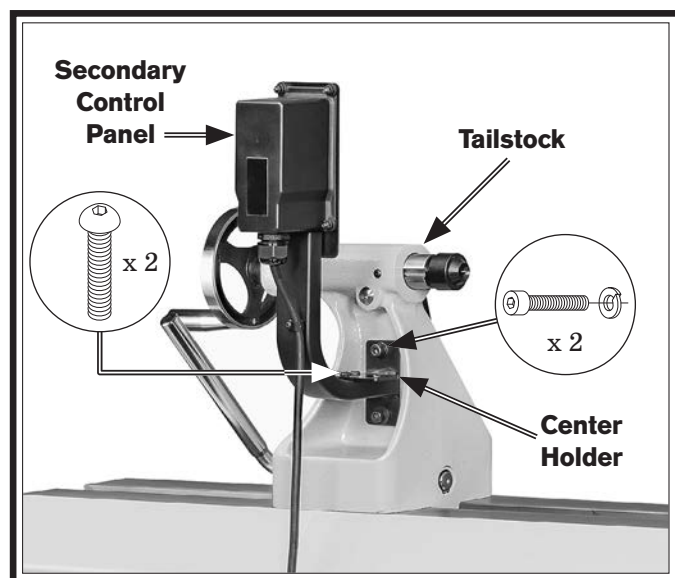

Figure 12. Secondary control panel installed.
1. Attach secondary control panel to tailstock using (2) M8-1.25 x 20 cap screws and 8mm lock washers (see **Figure 12**).
2. Attach center holder to secondary control panel using (2) M6-1 x 12 button head cap screws (see **Figure 12**).